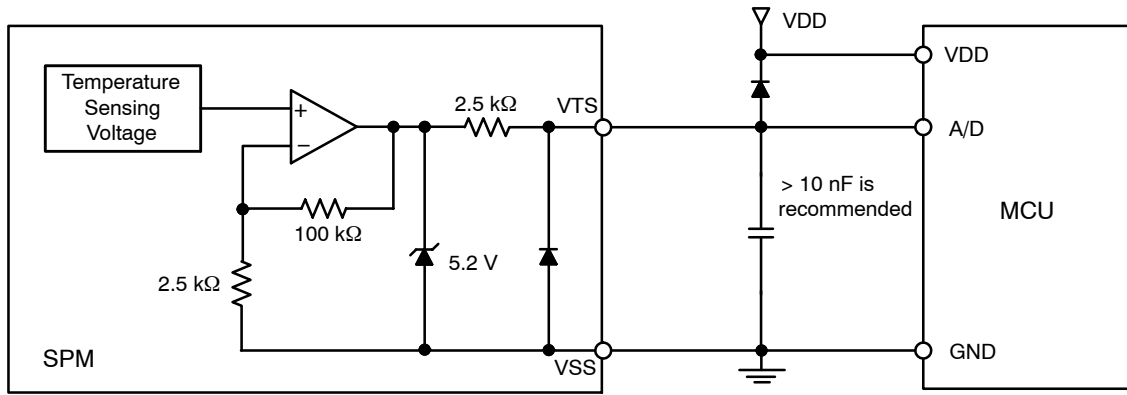

Figure 7. Internal Block Diagram and Interface Circuit of VTS
- TLVIC is the temperature of LVIC itself. VTS is only for sensing temperature of LVIC and cannot shutdown IGBTs automatically. The relationship between VTS voltage output and LVIC temperature is described in Figure 6. It is recommended to add a ceramic capacitor of 10 nF or more between VTS and VSS (Signal Ground) to make the VTS more stable as described in Figure 7. Refer to the application note for this products about usage of VTS.